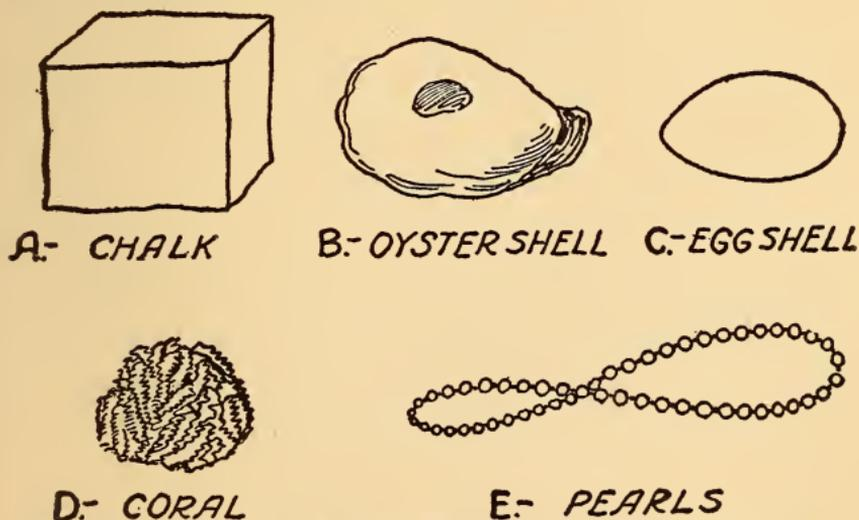

FIG. 53. ALL THESE ARE MADE OF CALCIUM CARBONATE ( $\text{CaCO}_3$ ) OR LIMESTONE
**In and Around the House.**—*Chalk*, *oyster* and *egg-shells*, *coral* and *pearls* are formed of *calcium carbonate* ( $\text{CaCO}_3$ ), that is, *limestone*, see Fig. 53, and more will be said anon of this substance. *Black-board chalk*, or *crayon*, is not chalk at all but *cal-*